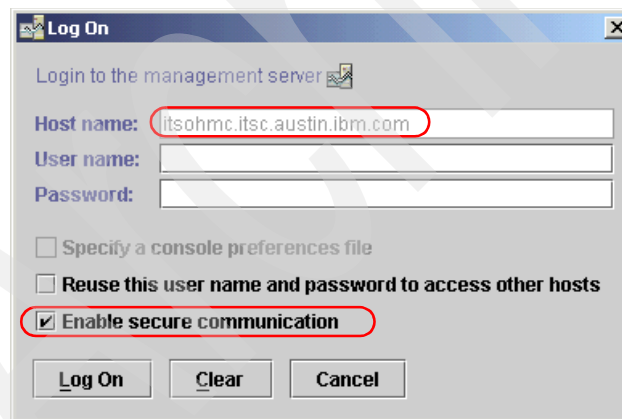

Figure 7-22 Web-based System Manager Windows client Log On dialog box
If the Web-based System Manager client application is successfully invoked, you will see the Log On dialog box shown in Figure 7-22.
3. Enter the host name or the IP address in the text field highlighted in Figure 7-22, and press the Tab key to move the cursor to the User name field.
4. Select the “Enable secure communication” check box in Figure 7-22 on page 149, if you wish to connect to the HMC using SSL. This check box is selectable only if the following are satisfied: